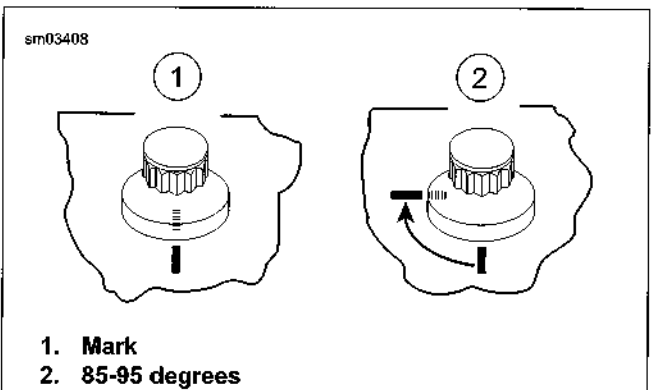

Figure 3-73. Tighten Screws
- c. See Figure 3-73. Mark cylinder head and screw shoulder with a line (1).
- d. Tighten each screw an additional 85-95 degrees (2).